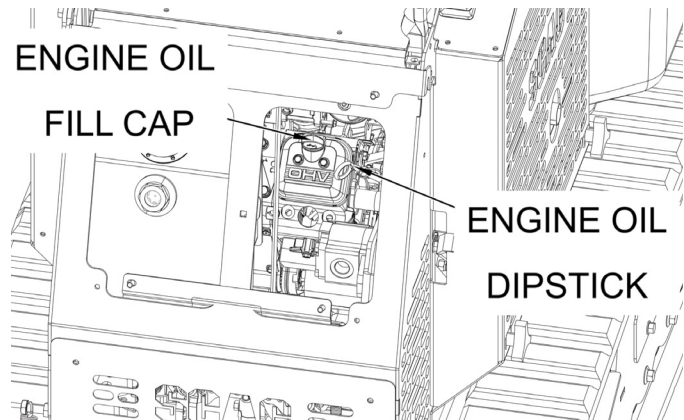

Figure 6-9. Engine Oil Cap & Dipstick
4. Remove the dipstick and check the engine oil level. Add additional oil as needed. See Figure 6-9.
8. Remove the engine oil cap and pour in fresh, clean oil as specified by the Engine Owner's Manual. Pour slowly and check the oil level to avoid overfilling. See Figure 6-9.
1. Place a suitable container or rag under the engine oil filter to catch used oil. Remove the oil filter and properly discard. See Figure 6-9.